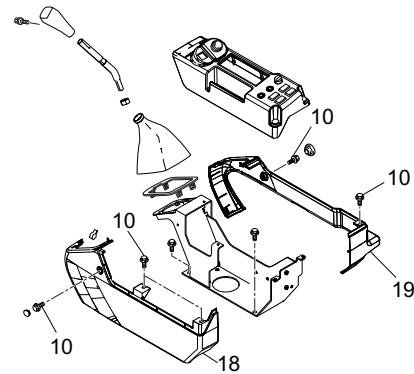

Fig. 33-60 Cover removal (Right control box)
- (1) Disconnect the negative side terminal of the battery.
- (2) Release the residual pressure in the circuit and the pressure in the hydraulic tank.
- (3) Remove the right and left control boxes and the control panel.
- (4) Loosen sems-bolts (10) to remove the cover assembly (18) and (19) (See Fig. 33-60).